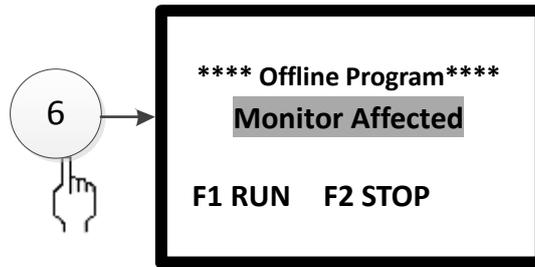

Fig. 3-32
⑥ Off-line Program
Enter the screen as shown in Fig. 3-32 by pressing number 6 or moving cursor to select ⑥. Pressing “F1” enters off-line program. Pressing “F2” stops off-line program. Pressing ESC returns to the previous menu.